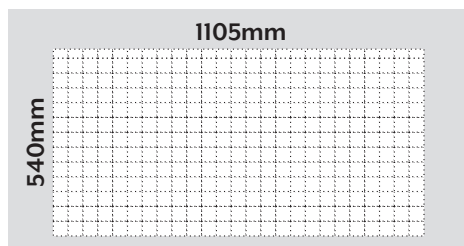

FIGURE 11
1. Prepare bench top cut out using the template provided, as shown in Figure 11. Use a fine point marker and make your cut as accurately as possible.